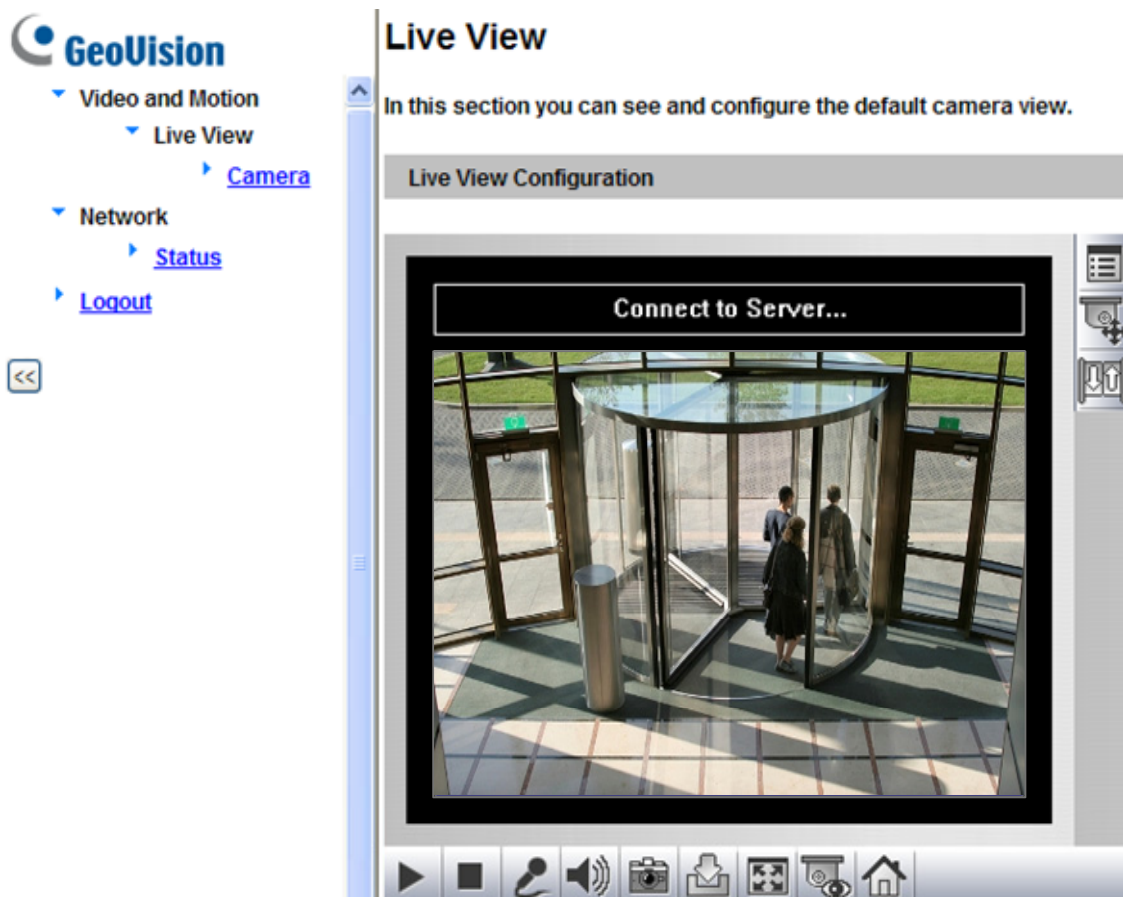

Figure 3-1
4. A video image, similar to the example in Figure 3-1, is now displayed on your browser.